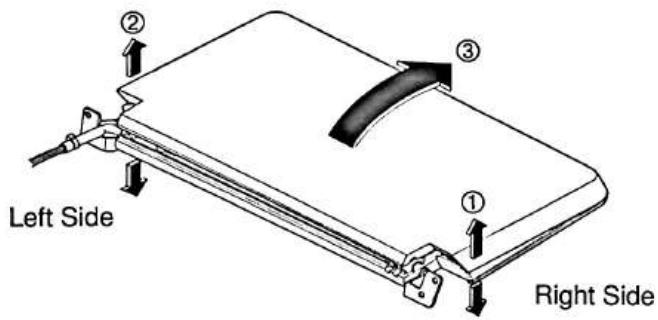

Figure 21
- (8) Gently lift up the right side of the upper LCD case a small amount and then lift up the left side. Remove the upper LCD case by gently lifting up the center of it as shown in Figure 21.